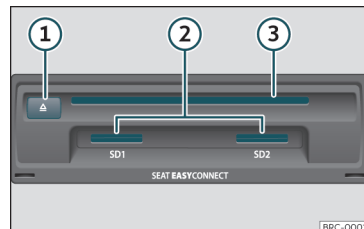

Fig. 170 Slots for data storage devices in the glove compartment.
- Push the CD or DVD into the DVD slot >>> **Fig. 170** ③ to the point where it is drawn in automatically.
Insert the compatible memory card, beveled edge first and with the label face up (contacts face down), into slot >>> **Fig. 170** ②, until properly inserted.